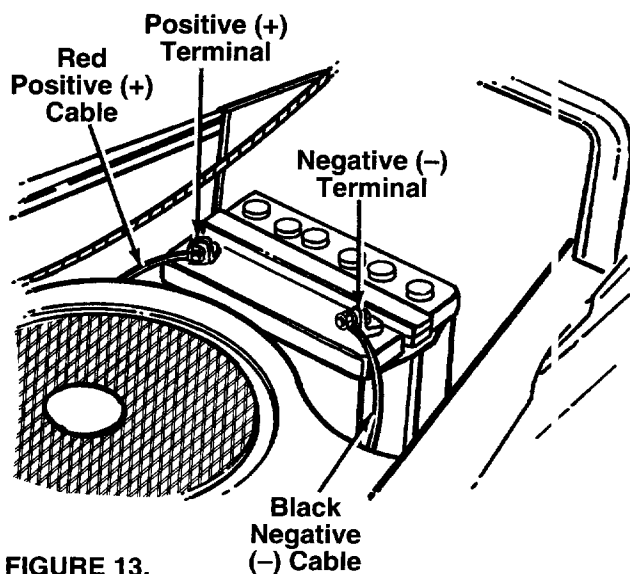

FIGURE 13.
2. Attach the positive cable (heavy red wire) to the positive battery terminal (+) with hex bolt and hex nut. See figure 13. Slide the rubber boot down over the positive terminal.